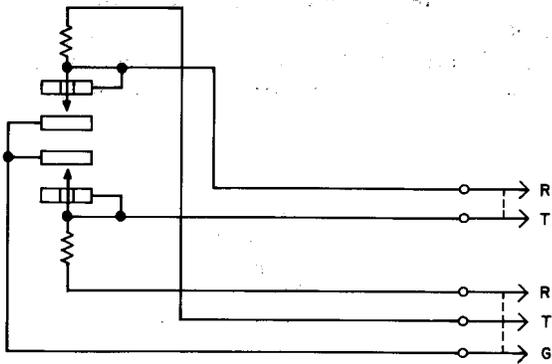

Fig. 12—418B Plug
2.12 418B: The 418B (Fig. 12) is a reversing plug consisting of two 1A1C protector units mounted in a metal housing and connected to a 412A and 412C plug. The 418B plug is designed to reverse the tip and ring of a cable pair with respect to central office circuits. This plug will not ground the line when the protector units are removed. The 418B plug replaces the 418A plug and is to be used on the 121-